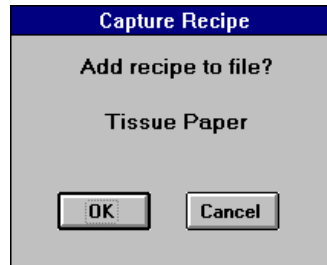

Figure 7-19 Pop-Up Keyboard
- 2a. Click anywhere in the **Capture Recipe** box and the pop-up keyboard (see Figure 7-19) allows the user to enter the recipe name by either pointing device (mouse or trackball) or using a hardware keyboard.